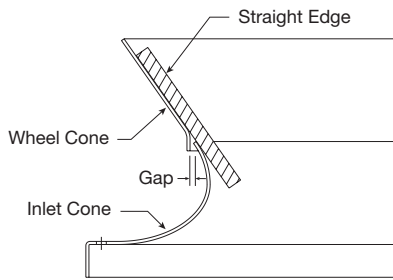

Figure 1
1. Rotate the fan wheel by hand and ensure no parts are rubbing. The wheel should rotate freely and be aligned as shown in Figure 1. Wheel position is preset and the unit is tested at the factory.
**Alignment** - If necessary, adjust wheel position by loosening the wheel hub (see Tapered Bushing Hub, Removal and Replacement, on page 12) from the motor shaft so that a straight edge held tight to the wheel cone just touches the inlet cone. Refer to Figure 1.
4. Adjust the axial location of the wheel in the fan relative to the inlet cone (venturi) as shown in Figure 1, page 11. Then tighten the socket head cap screws an eighth turn at a time in an alternating fashion and to a torque of 10 ft·lbs for QT bushings and 9 ft·lbs for SD bushings.